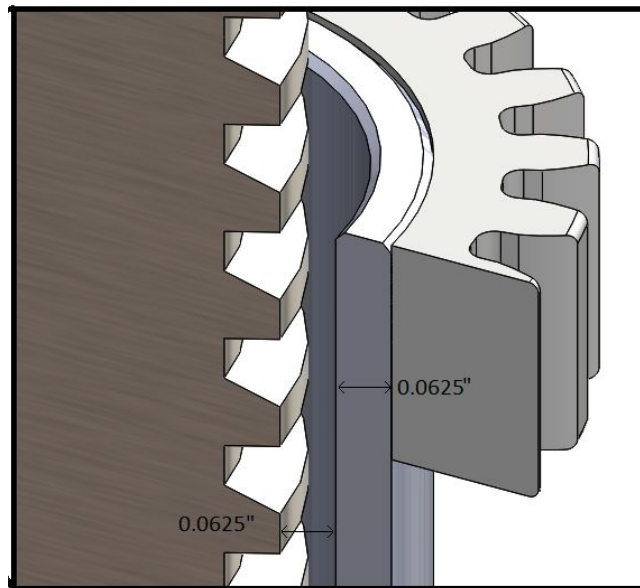

Fig.1 - Sleeve for lead screw gear
- Attaching the gear to the power screw sleeve can be achieved by boring out one gear to have a 3/4" bore diameter. This leaves a sleeve thickness of 0.0625" and another 0.0625" clearance between the screw and the sleeve. See Fig. 1.